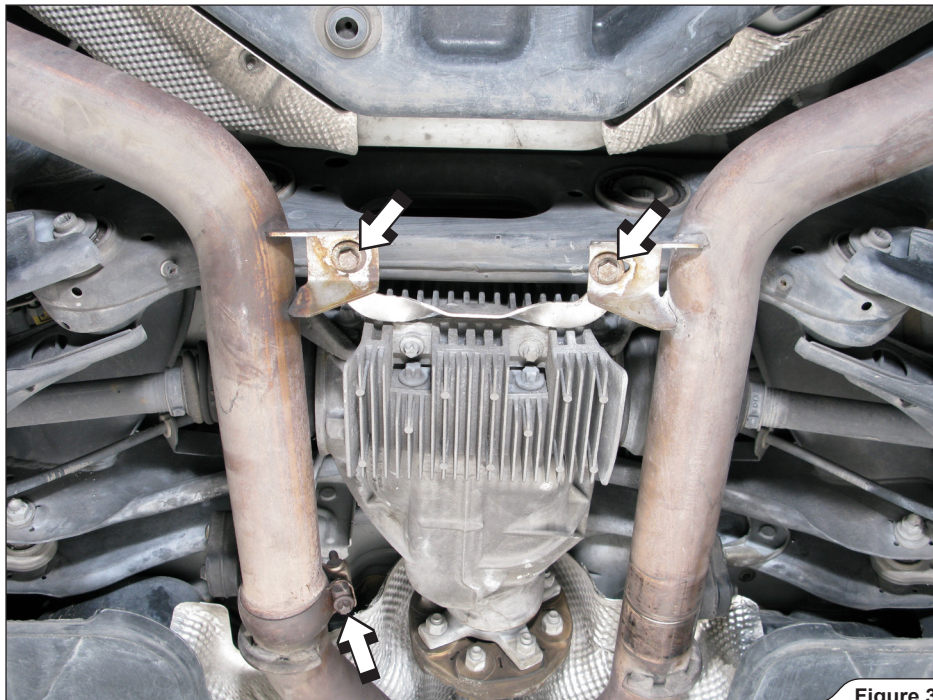

Figure 3
2. **For Slip-On and Evolution:** unscrew the mufflers' connection bracket and left pipes' spherical clamp (Figure 3).